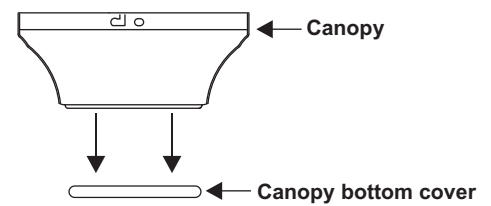

Figure 8
1. Remove the decorative canopy bottom cover from the canopy. (Fig. 8)